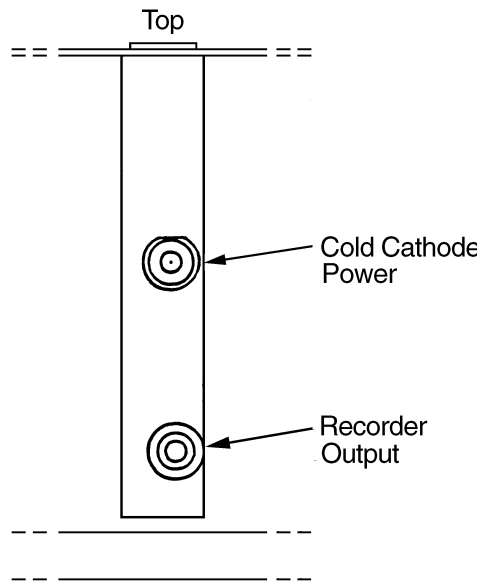

Figure E-2 Card Connections
Cable Length	Standard cables with lengths of 10, 25, 50, 75, and 100 feet are stocked. Longer cables are available on special order. Connections are made at the rear of the card as shown in Figure E-2.
2. Use Figure E-2 to connect the board.